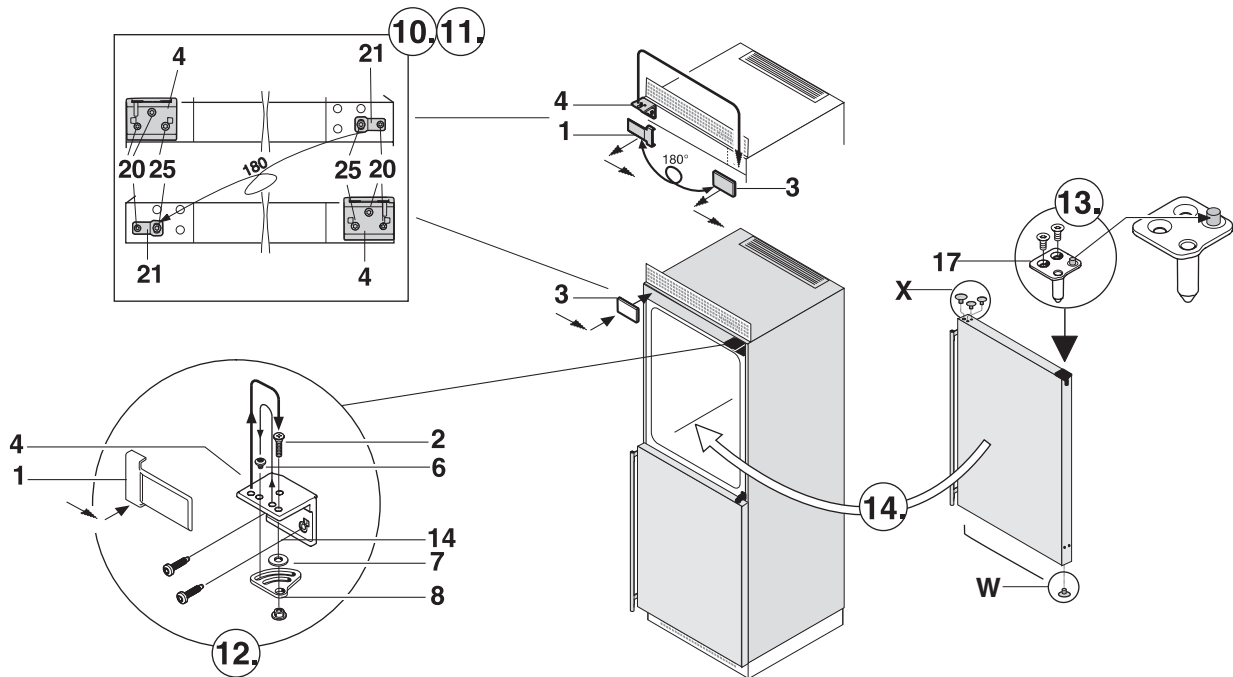

Figure 6
10. **Figure 6:** Lift up cover (3) on handle side, push outward; lift up cover (1) on hinge side and pull off.
11. Unscrew mounting plate (21): first mounting screw (20), then inner retaining screw (25).
- Unscrew hinge (4): first remove the mounting screw (20), then retaining screws (25). Fit hinge (4) to opposite side: for easy assembly, fit hinge from above and first tighten with the upper retaining screw (25) M5, then screw (25) and finally mounting screw M4 (20).
- Turn mounting plate (21) through 180° and screw tight again on the new handle side: first retaining screw (25), then mounting screw (20).
12. Transfer hinge pin and screw to the respective opposite side of the hinge (4), but do not insert them in the hole or fasten them now.
13. On the upper door, install the door fittings as shown in **Figure 6**. Insert the plugs (X) as shown in the detailed drawing. Move plug (W) to the opposite side of the door.
14. Place the upper door on the center hinge, fit the bushing (8), stop (7) and washer on the door, swivel in the door at the top and insert and secure the hinge pin (2) from above through the hinge and stop. Insert screw (6) for fixing the opening angle to 130°.